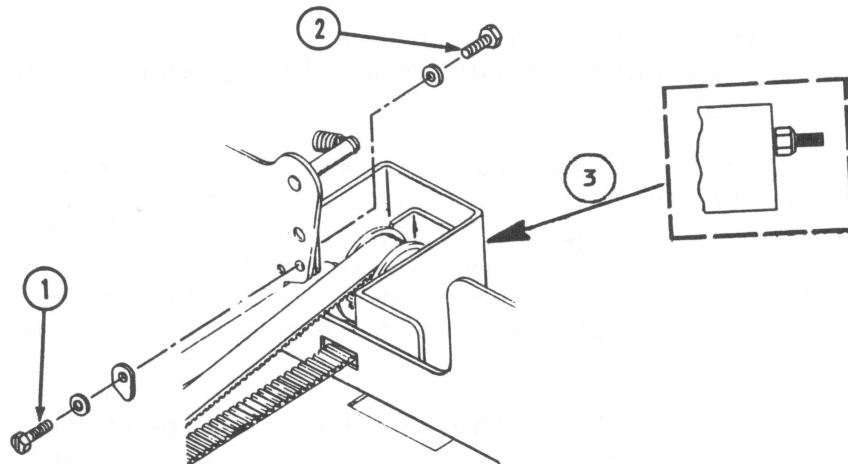

FIGURE 16
- \*1. Turn the drive belt adjusting nut (Figure 16, #3) clockwise until the belt is fairly taut.
- \*6. If the drive belt is too loose, turn the adjusting nut clockwise; if too tight, turn the nut counterclockwise (see Figure 16, #3).